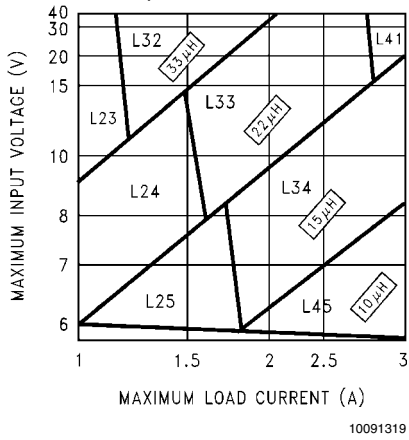
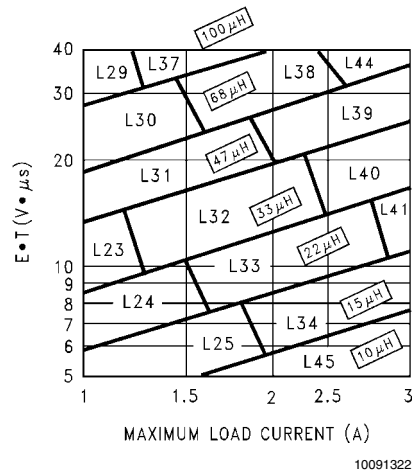

FIGURE 3. LM2673-3.3
FIGURE 6. LM2673-ADJ
Step 3: Determine the inductor required by using one of the four nomographs, *Figure 3* through *Figure 6*. Table 1 provides a specific manufacturer and part number for the inductor.
Step 5: Determine an input capacitor from Table 4 for fixed output voltage applications. Use Table 2 to find the specific capacitor type. For adjustable output circuits select a capacitor from Table 2 with a sufficient working voltage (WV) rating greater than $V_{in\ max}$, and an rms current rating greater than one-half the maximum load current (2 or more capacitors in parallel may be required).
Step 3: Use the nomograph for the 3.3V device, *Figure 3*. The intersection of the 16V horizontal line ($V_{in\ max}$) and the 2.5A vertical line ($I_{load\ max}$) indicates that L33, a 22 μ H inductor, is required.
Step 3: To use the nomograph for the adjustable device, *Figure 6*, requires a calculation of the inductor Volt•microsecond constant ($E \cdot T$ expressed in $V \cdot \mu S$) from the following formula:
Using *Figure 6*, the intersection of $27V \cdot \mu S$ horizontally and the $2A$ vertical line ($I_{load} \text{ max}$) indicates that L38, a $68\mu H$ inductor, should be used.
Important Note: When using the adjustable device in low voltage applications (less than $3V$ output), if the nomograph, *Figure 6*, selects an inductance of $22\mu H$ or less, Table 6 does not provide an output capacitor solution. With these conditions the number of output capacitors required for stable operation becomes impractical. It is recommended to use either a $33\mu H$ or $47\mu H$ inductor and the output capacitors from Table 6.